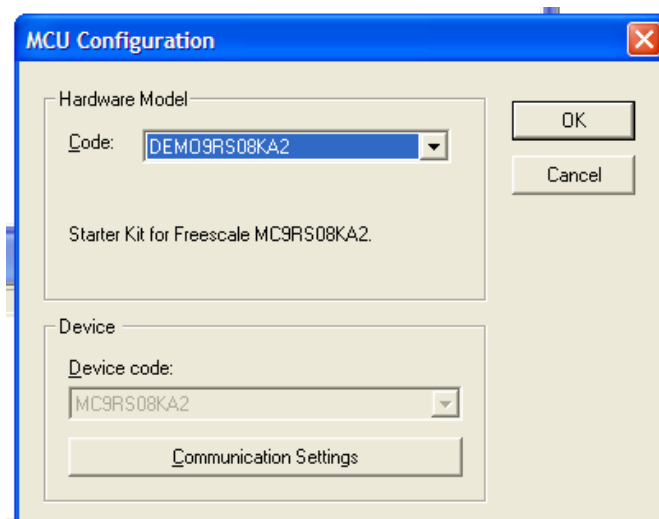

Figure 8. True Time Simulator – Real Time Debugger Configuration Window
4. The true time simulator real time debugger is opened and requests the MCU configuration. Choose DEMO9RS08KA2. See Figure 8.